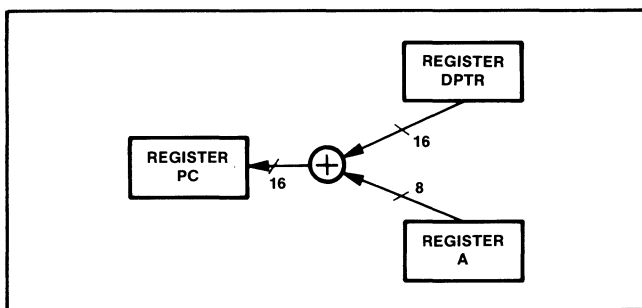

Figure 2.32. Unconditional Branch (Indirect) Operation
The register-indirect jump in the 8051 permits branching relative to a base register (DPTR) with an offset provided by the non-signed integer value in the index register (A). This accommodates N-way branching. The indirect jump is shown in Figure 2.32.